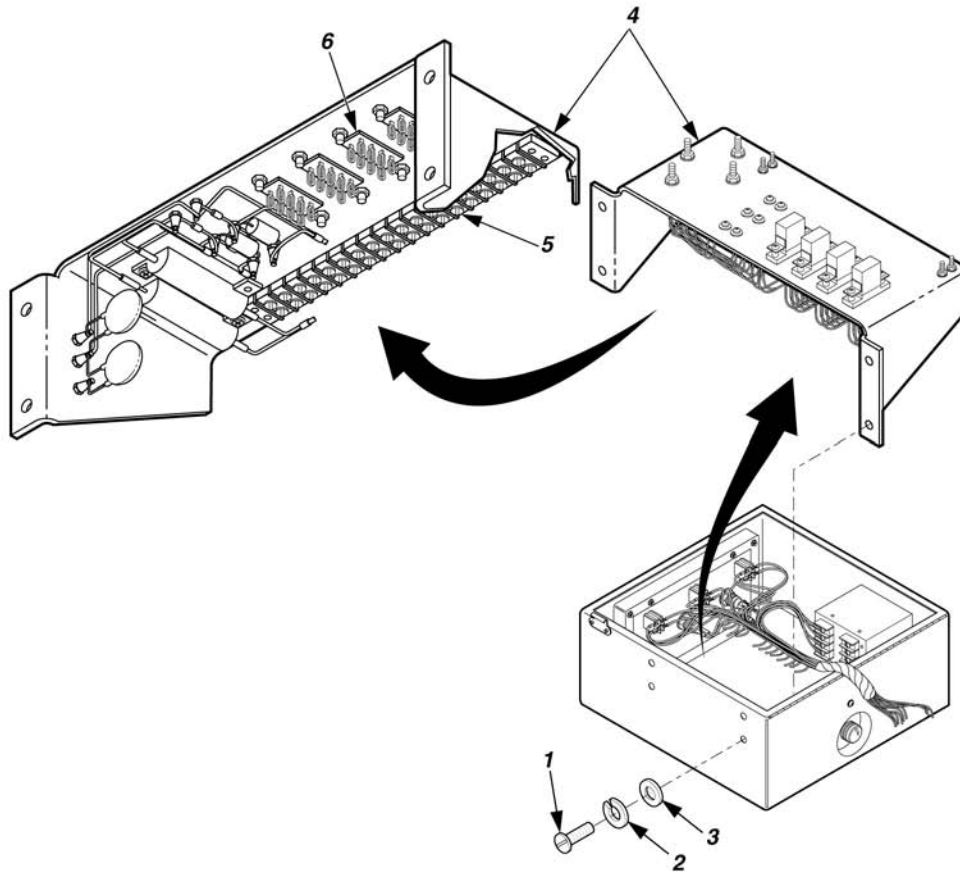

Figure 5-3. Relay Board Harness Assembly W11 Removal.
1. Remove four screws (1, Figure 5-3), lock washers (2), and flat washers (3), and invert relay board assembly (4).